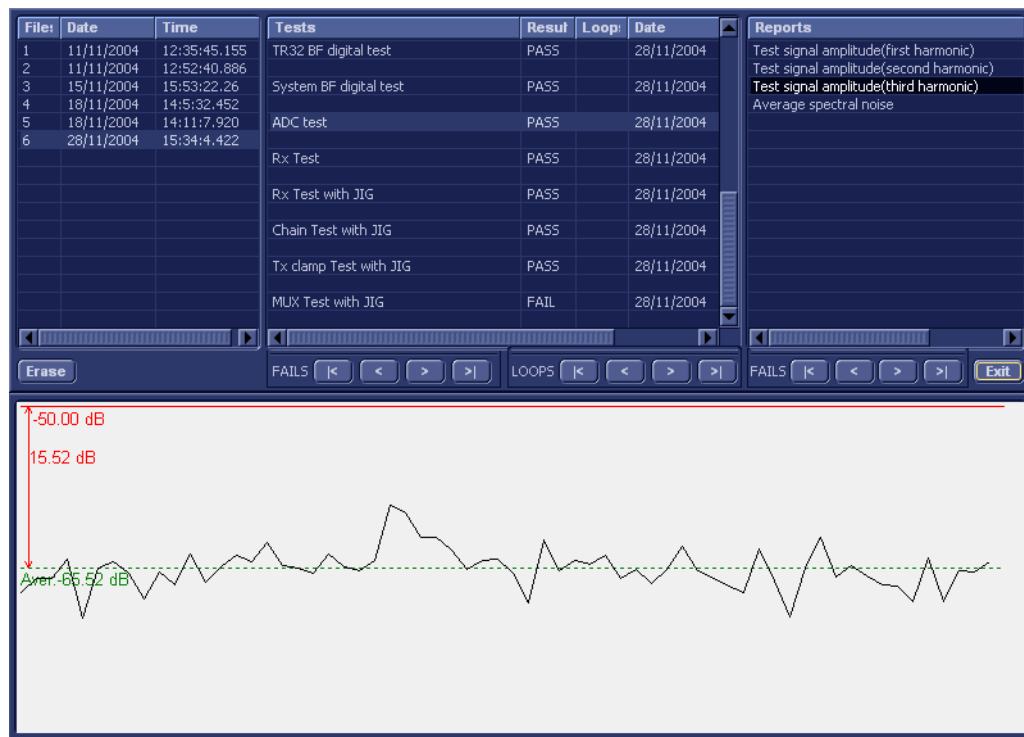

Figure 7-30 View Test Log - Third Harmonic
- 12.) Select the third report (the report is highlighted in the *Reports* list, and the corresponding results are shown in the Report window below, as shown in Figure 7-30).